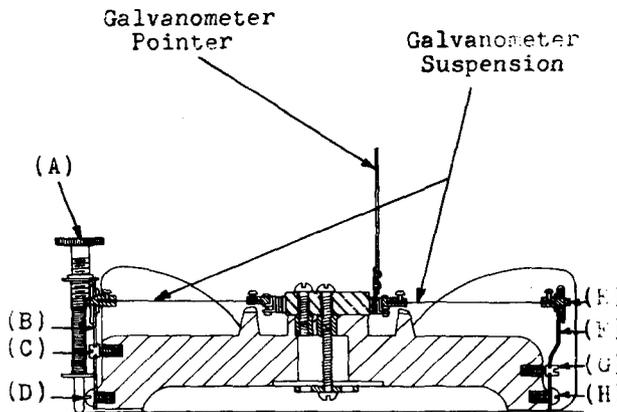
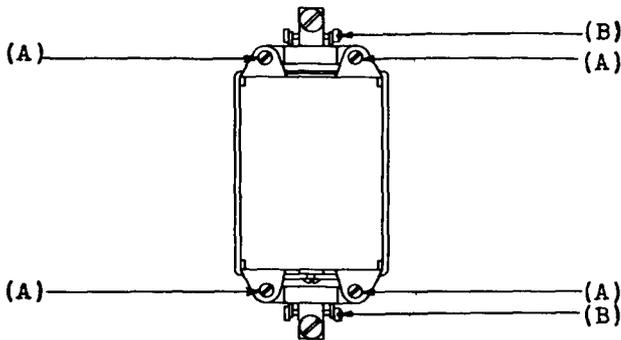

Fig. 11 - Cross Section of Galvanometer
Fig. 12 - Galvanometer Coil Assembly
(3) Coil Position: Fig. 11 - If the galvanometer coil is not vertically central with respect to the core, the coil may be lowered by turning the tension screw (C) in a clockwise direction and screw (G) in a counterclockwise direction, using the size 3 watchmakers screwdriver. The screws should be turned in the reverse direction to raise the coil. If the coil is not horizontally central with respect to the core use the 3-1/2 inch cabinet screwdriver and loosen (very slightly) the screws (D) and (H) which hold the flat springs (B) and (F), and shift the position of these flat springs sufficiently to bring the coil into the desired position. Tighten the screws, being careful not to let this affect the position of the flat springs. If the front edge of the coil is not approximately flush with the front face of the core, loosen (very slightly) the screws (D)
(4) Suspension Tension: Fig. 11 - The tension in the galvanometer suspension should be such that there is no appreciable sag in it, when the galvanometer is laid in a horizontal position. The tension is increased by turning the tension screws (C) and (G) in a counterclockwise direction, using the size 3 watchmakers screwdriver, and is decreased by turning the screws in a clockwise direction. A very fine adjustment is required as one-eighth of a turn causes a large change in tension when the suspension is nearly taut. Care should be taken that the tension put on the system is not too great as this will break the suspension strip. If the suspension tension is not correct the pointer may vibrate excessively when the galvanometer system is in place in the controller. Usually the remedy for this is to increase the tension slightly.
(5) Suspension Torsion: Fig. 11 - If the pointer does not come to rest at right angles to the face of the core when the galvanometer is held in a vertical position proceed as follows: Set the zero adjusting screw (A) near its center of travel. Set the galvanometer on a flat surface so that the suspensions are approximately vertical. If the pointer is not approximately at right angles to the face of the core after it comes to rest, turn the suspension binding post by pin (E) until it comes to rest in this position.
(6) Balance: Tilt the galvanometer 10 or 15 degrees in all directions. If this does not cause the pointer to move, the galvanometer shall be considered as sufficiently balanced. If tilting the galvanometer 10 or 15 degrees causes the pointer to move, tests shall be made for front and rear balance and for lateral balance.
(7) Front and Rear Balance: Hold the galvanometer with the suspensions horizontal and the pointer to the left or right. If the tip of the pointer falls below or rises above the horizontal, the front and rear of the galvanometer system do not balance each other. Hold the galvanometer with the flat back of the moulding against the palm of one hand. Extend the thumb and fingers around the moulding and hold the coil. If the pointer tip moved downward during the test, turn each screw (A) (Fig. 12) an equal amount
in a clockwise direction using the size 5 watchmakers screwdriver. If the pointer tip moved upward during the test, turn each screw (A) (Fig. 12) an equal amount in a counterclockwise direction. Several attempts may be necessary before a balance is obtained.
(8) Lateral Balance: Hold the galvanometer with the suspensions horizontal and the pointer downward. If the pointer moves to either side of the vertical, the left and right sides of the galvanometer system do not balance each other. Hold the galvanometer with the flat back of the moulding against the palm of one hand. Extend the thumb and fingers around the moulding and hold the coil. If the pointer moved to one side of the vertical during the test, the galvanometer system is heavier on the opposite side. If the galvanometer system is heavier on the side where the screw heads (B) (Fig. 12) are located, turn each of these screws an equal amount in a clockwise direction using the size 5 watchmakers screwdriver. If the galvanometer system is heavier on the opposite side, turn each screw (B) an equal amount in a counterclockwise direction. Several attempts may be necessary before a balance is obtained.
(11) If the horizontal planes of the upper and lower faces of the pointer are not parallel to the horizontal planes of the stationary clamp and the rocker arm clamping wires, this may cause the pointer to deflect or to vibrate as the clamping wires leave it. To correct this replace the pointer as covered in Section 024-330-801.
(12) If the pointer sticks to the stationary clamp, to the rocker arm clamping wires or to the setting levers, the cause usually is dirt or oil on the pointer or on the parts which the pointer touches. To remedy this, carefully clean the different parts as covered in paragraph 3.01(3).
(13) Zero Adjustment: Remove galvanometer lead + from its binding post and clamp it under binding post 0. Start the controller by releasing the BF relay. Turn the zero adjusting screw slowly to move the pointer to its zero position. A satisfactory preliminary adjustment is obtained when three successive revolutions of the sweep cams do not cause the clutch arm to move. Since the galvanometer is very sensitive to air currents the final adjustment should be made with the controller case closed. If there is no movement of the controller dial for an interval of 2 minutes with the case closed the adjustment is satisfactory. If the pointer cannot be brought to the zero position in this way it will be necessary to remove the galvanometer and to turn the lower suspension binding post by pin (E) (Fig. 11) a small amount so that when the galvanometer is remounted the final adjustment can